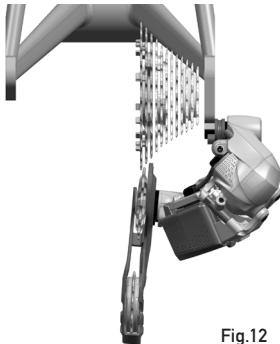

Fig.12
- by placing the rear derailleur on the largest sprocket, looking at it from the rear, you will notice that the lower part of the jockey cage is too close to the spokes of the wheel, as the drop-out of the rear derailleur is probably bent (Fig. 12).